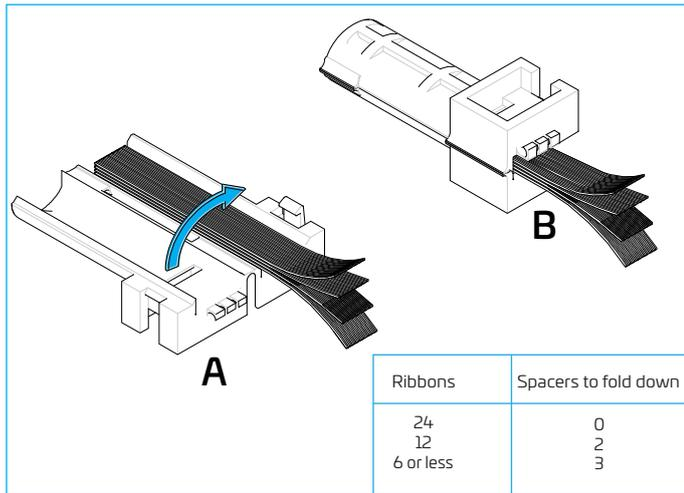
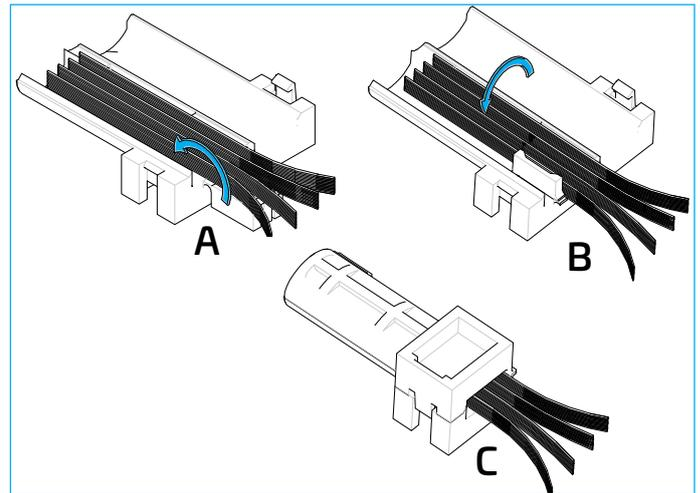

Figure 25
Figure 26
- For 24-fiber ribbons, lay the ribbon bundle in the ribbon holder as shown in Figure 25 A and B, remove all the spacers.
- For 12-fiber ribbons, fold the appropriate number of spacers as shown in Figure 26 A, remove the one(s) that will not be used. All fibers should be on one side of the spacers.
- Use the chart in Figure 25 to determine number of spacers to fold down (remove the ones not used).
- Stand the 12-fiber ribbons in the ribbon holder as shown in Figure 26 B.
- Once ribbons are in the ribbon holder, fold the other half over and snap shut (Figure 25 B and Figure 26 C).